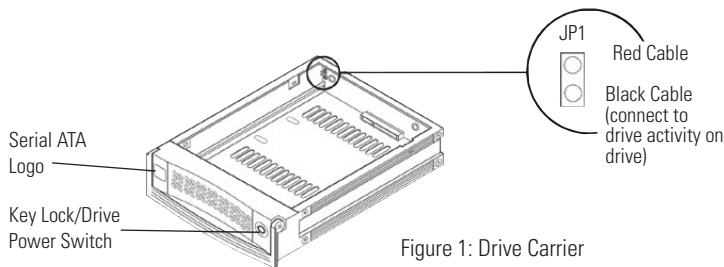

Figure 1: Drive Carrier
2. Fasten the drive into place with four (4) #6-32 Phillips Flat Hd. screws. Some drives may require minor adjustment before securing into carrier with screws. If drive supports the Activity Indicator feature, connect one end of the Activity Indicator Cable (provided) to the drive and the other end to JP1 located on Drive Carrier Board (Figure 1).
- a. Drive connection (cable included) to JP1 located on Drive Carrier Board (Figure 1).